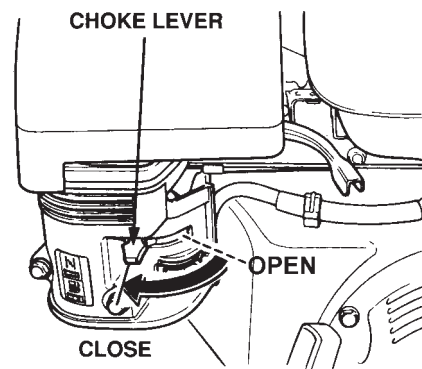

Figure 6. Choke Lever
2. To start a cold engine, move the choke lever (Figure 6) to the **CLOSED** position.